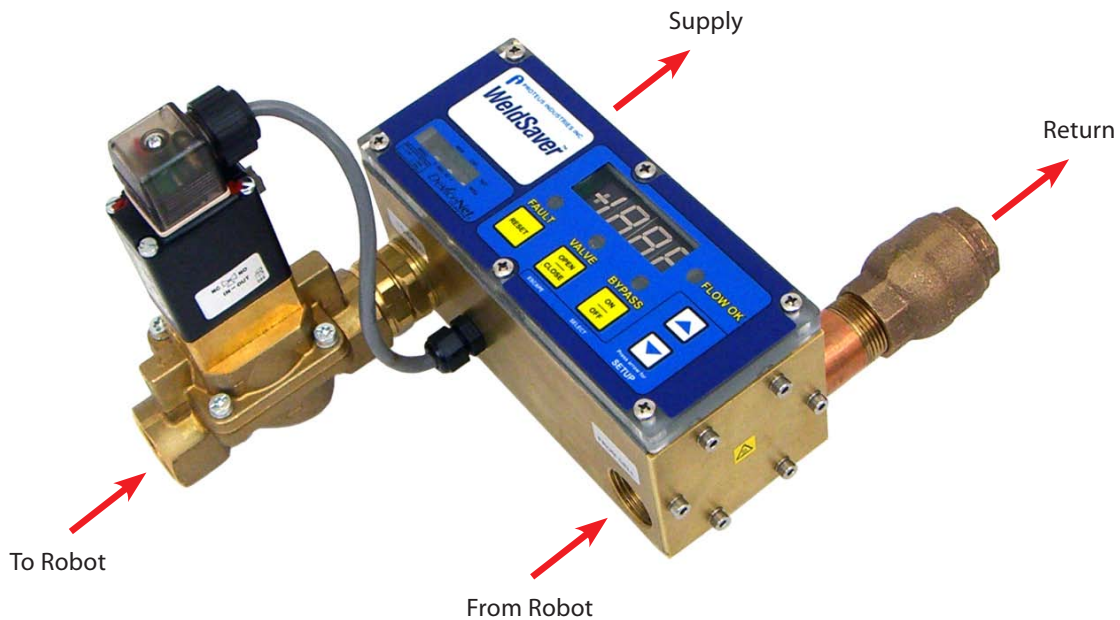

Figure 2: Plumbing connection locations of the WS2N WeldSaver
3. Refer to Figure 2 below to identify the water connection ports.